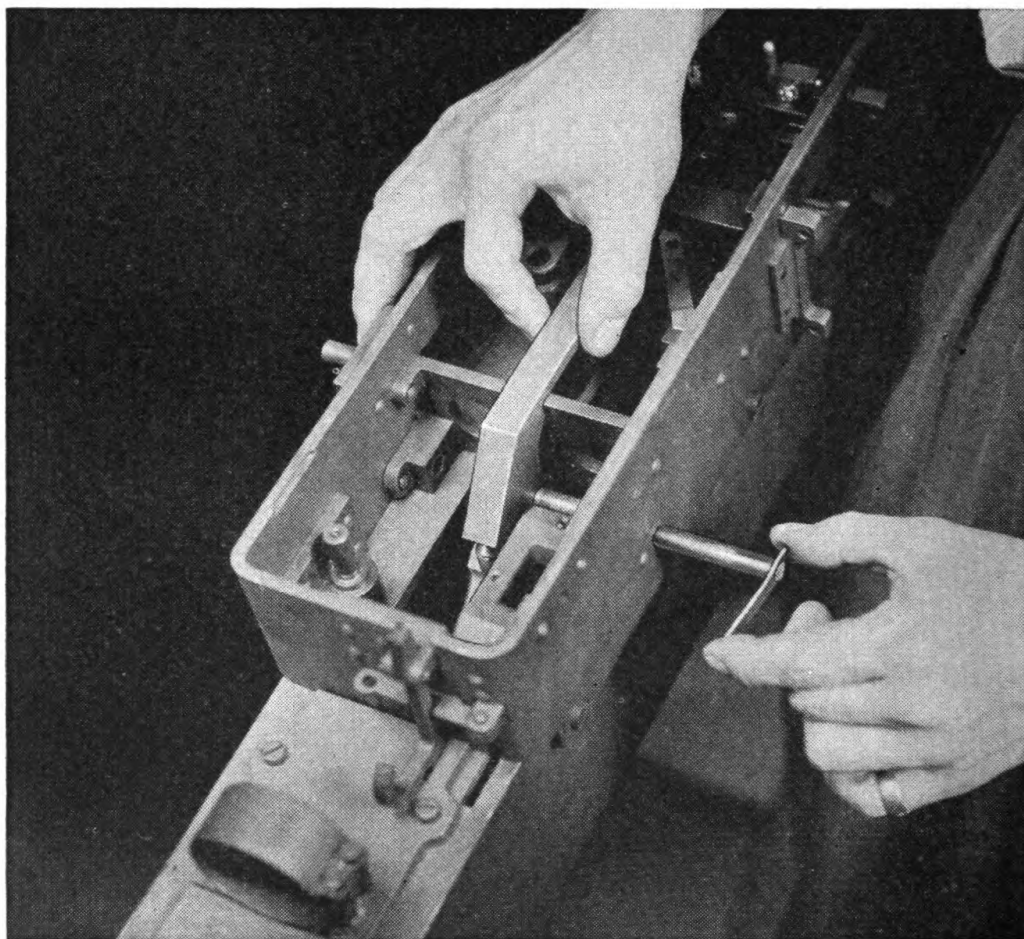

FIGURE 27.—Removing carrier pin.
- (8) Loosen the carrier pin lock and pull the carrier pin out of the side of the feed box (fig. 27).